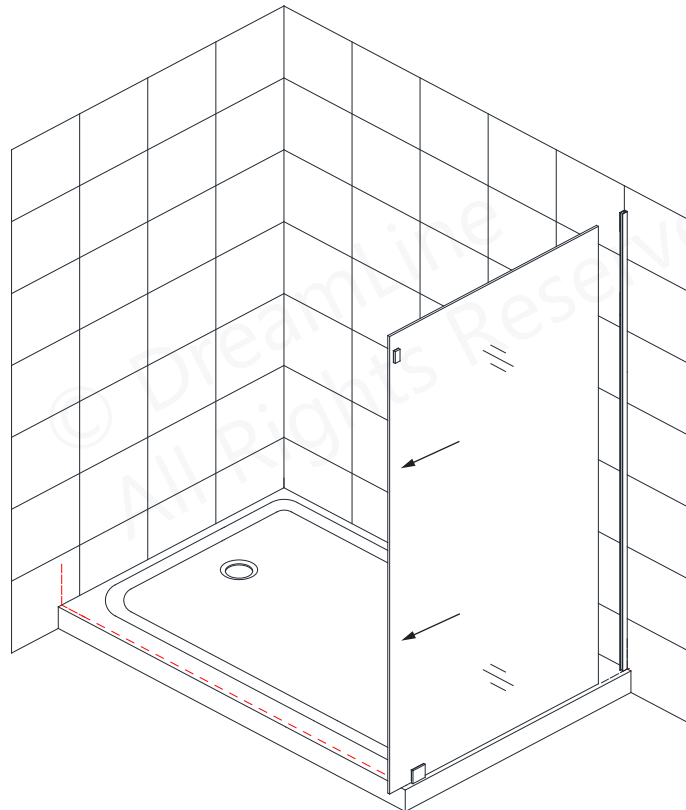
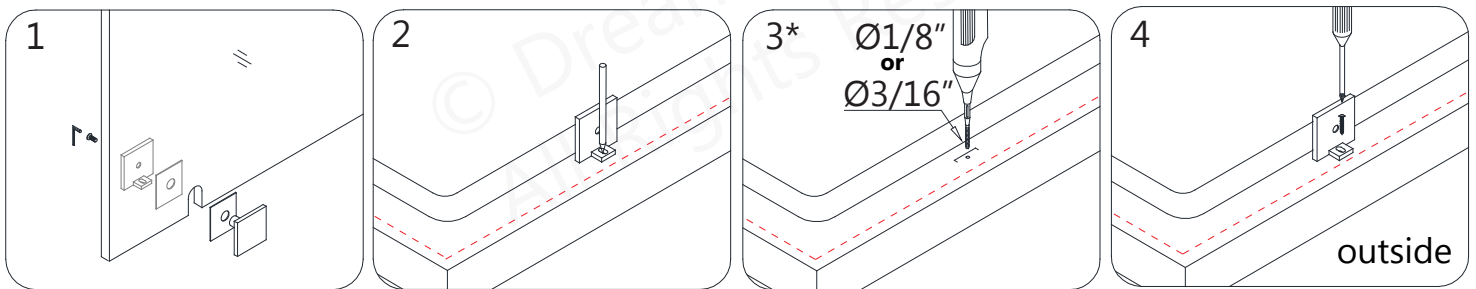

Fig 8
Fig 9
8. Carefully slide the **Return Panel Glass (#22)** out of the **U-Channel (#01)** and set it aside. Remove the **Glass Bracket (#24)** from the **Return Panel Glass (#22)**. **(Fig 8 and Fig 9)**
▫ drill a $\text{Ø}3/16''$ (4mm) hole up to the stud and attach the **Glass Bracket (#24)** to the threshold using the **ST4.2 x 55 Countersunk Screw (#25)**. (Fig 9)